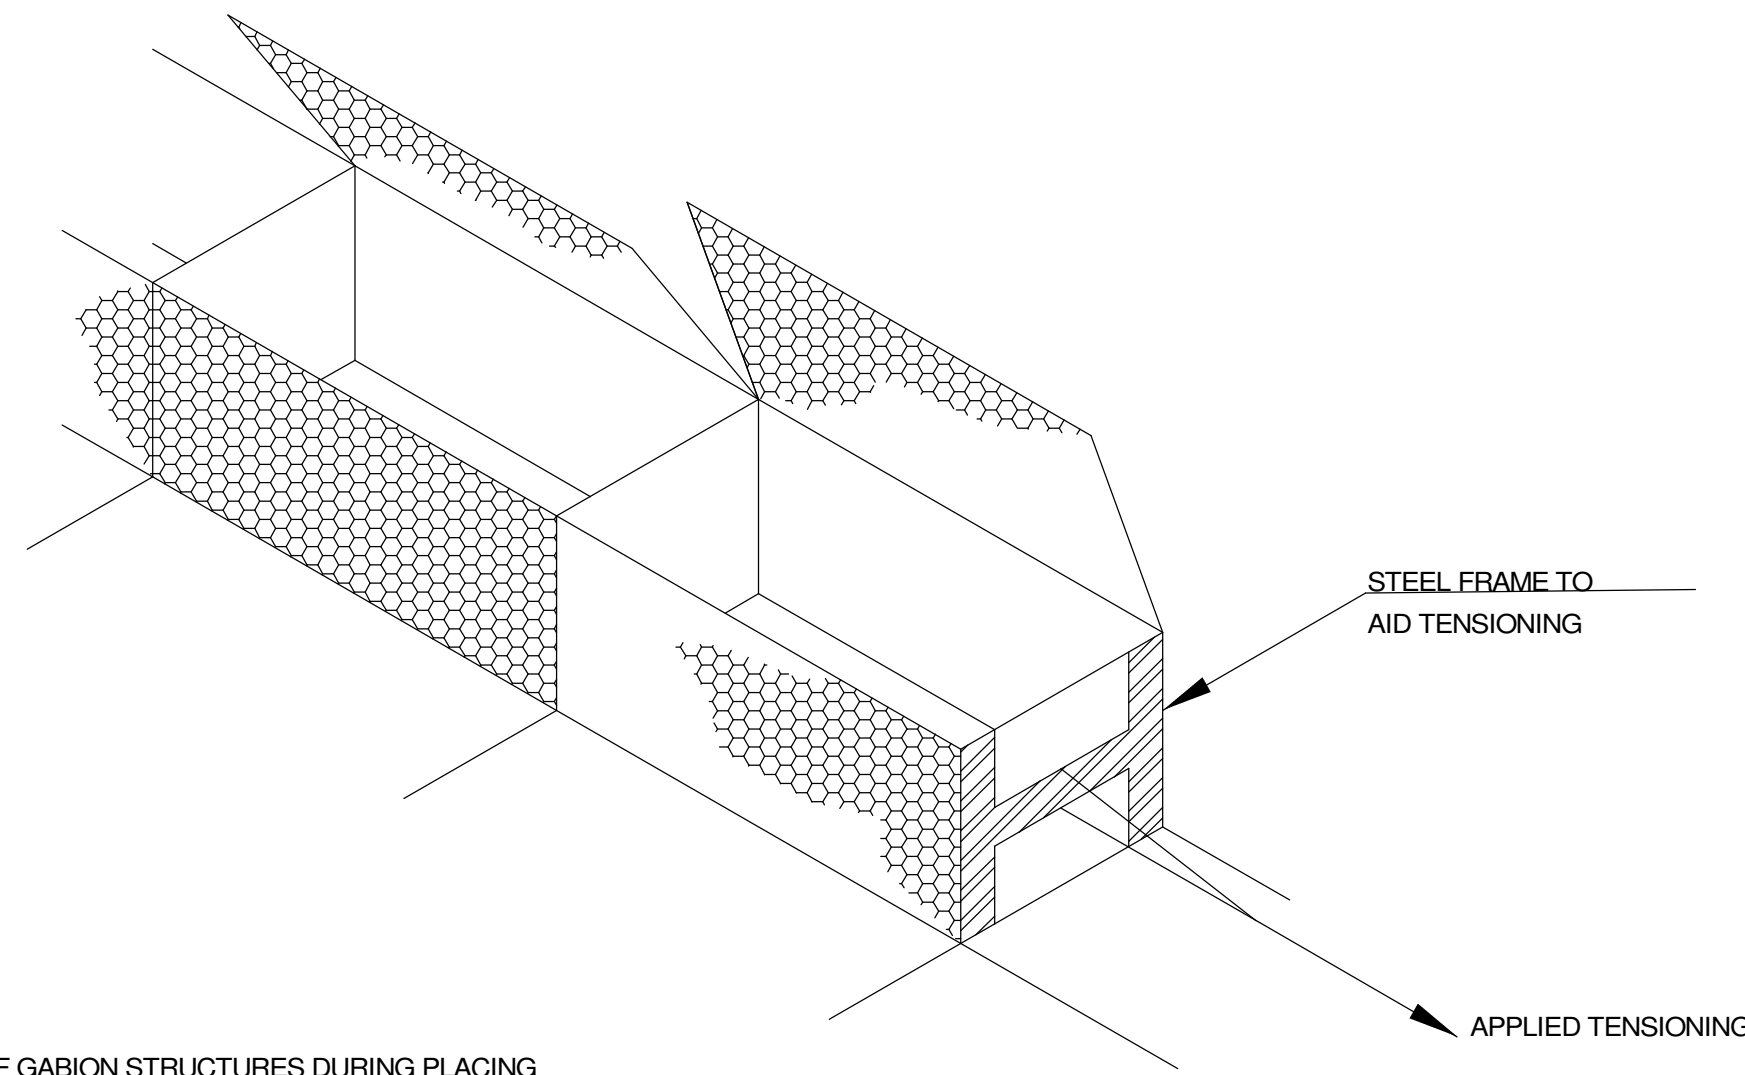

FIGURE 6
5. TENSION THE UNITS LONGITUDINALLY USING A FENCING WIRE TENSIONER. THE GABIONS. UNIFORM SURFACE SHOULD REMAIN IN TENSION DURING FILLING TO ENSURE GOOD ALIGNMENT AND FINISH. (FIGURE 6)